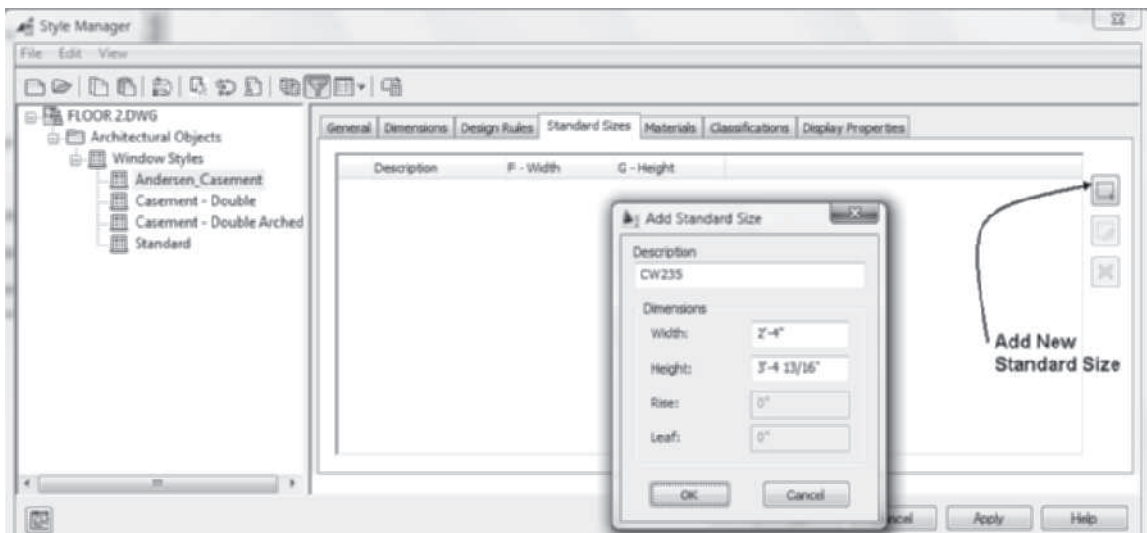

FIGURE 5.70 Creating standard sizes for a window style
18. Select the **Standard Sizes** tab, click the **Add New Standard Size** button, and edit the **Add Standard Size** dialog box shown in Figure 5.70 as follows: Description = **CW235**, Width = **2'-4" [700]**, Height = **3'-4 13/16" [1050]**. Click **OK** to dismiss the **Add Standard Size** dialog box.